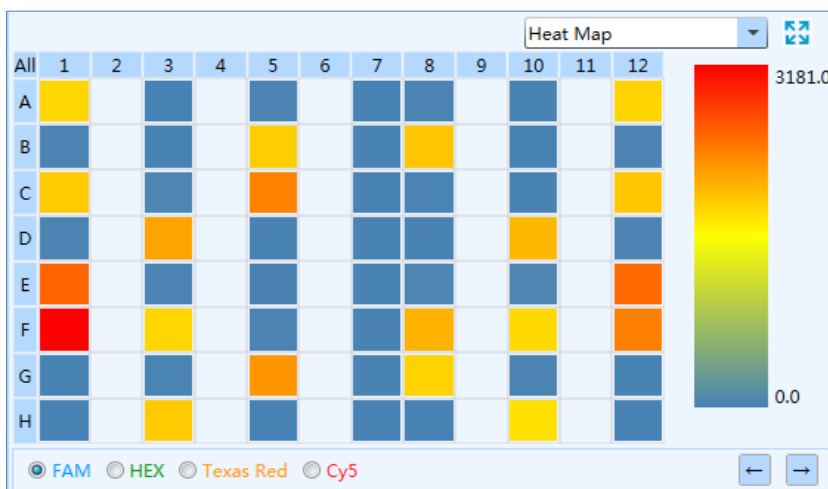

Figure D-7.6. Run Monitoring Interface - Heat Map Function Module
- 6. **Heat Map:** display the real-time fluorescence heat map of the current running experiment, as shown in figure D-7.6.